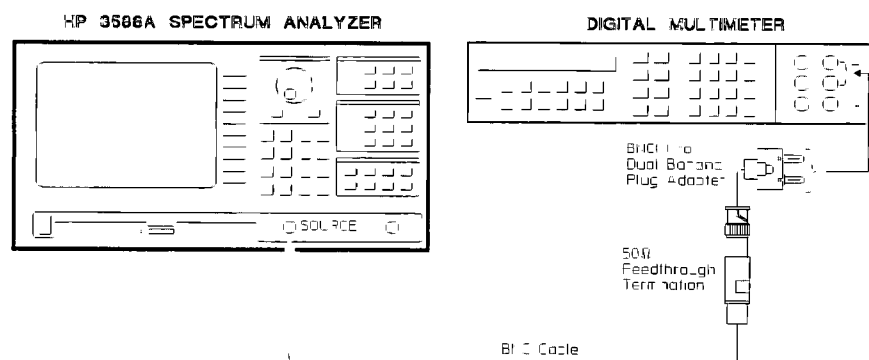

Figure 3-11 Low Frequency Response Setup
1. Connect the test equipment as shown in figure 3-11.